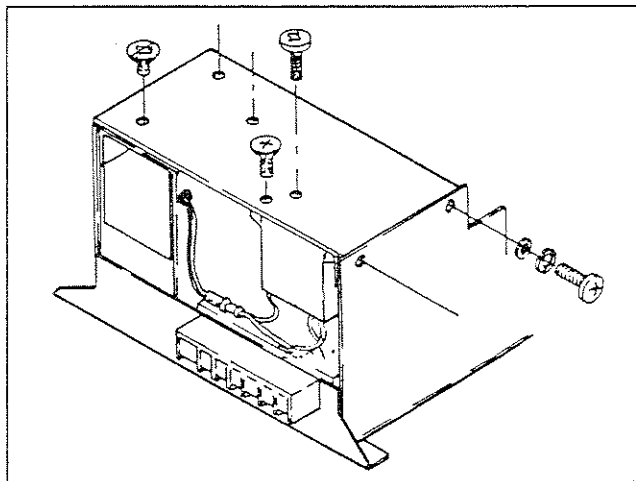

Figure 3. Removal of Inner Cover Screws
2. Remove four (4) screws that retain the inner cover (Figure 3).
3. Limit switch LS3 is retained to the inner cover by means of two long screws with countersunk heads (Figure 3) and a retaining bar with threaded holes. Lift up on the inner cover slightly and remove the two long screws with countersunk heads.